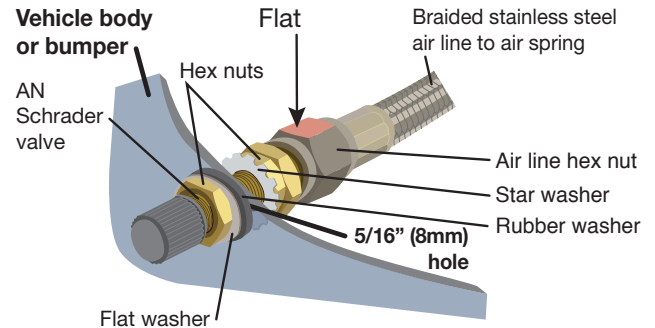

Fig. 27
2. Tighten the air line hex nut finger-tight, then use 2 wrenches to turn 1 additional flat (1/6 of one full turn). **Do not overtighten** (Fig. 27 or Fig. 28). The easiest way to tighten the fitting is off the vehicle. Install the Schrader valve in the chosen location.